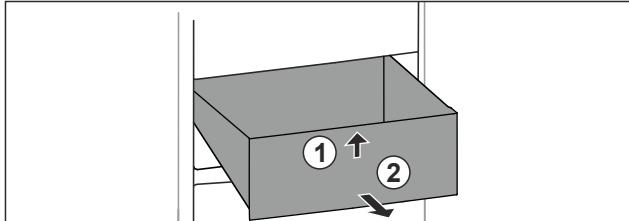

Fig. 91
- ▶ Lift up drawer at the front. Fig. 91 (1)
- ▶ Remove drawer to the front. Fig. 91 (2)